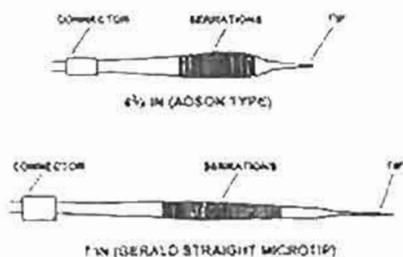

Figure 1-7. Handswitching forceps.
e. *Handswitching forceps (fig 1-7)*. The reusable, stainless steel, handswitching forceps are used for bipolar modes of operation. The forcep lines incorporate the electrical switch. The forceps have serrated sections for gripping and are also provided with blue, plastic tip protectors and cylindrical, clear-plastic storage tubes.